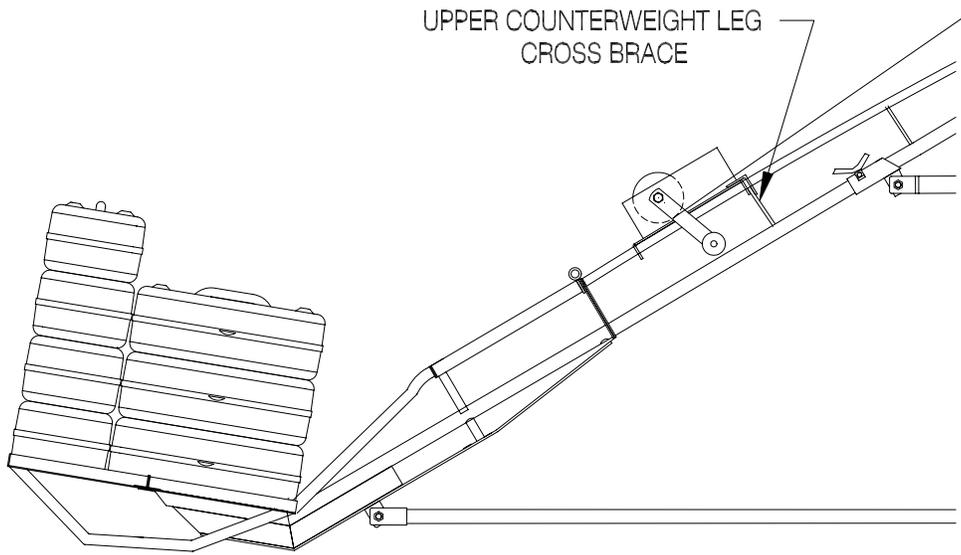

Figure 3-5.
- a. If using the HS1000 hoist, the winch is located on the upper counterweight leg such that the space between the front of the mounting plate and the angle clip fits over the counterweight leg cross-brace. Secure the winch in place by clamping the mounting plate to the counterweight leg with the angle clamp. See Figure 3-5.